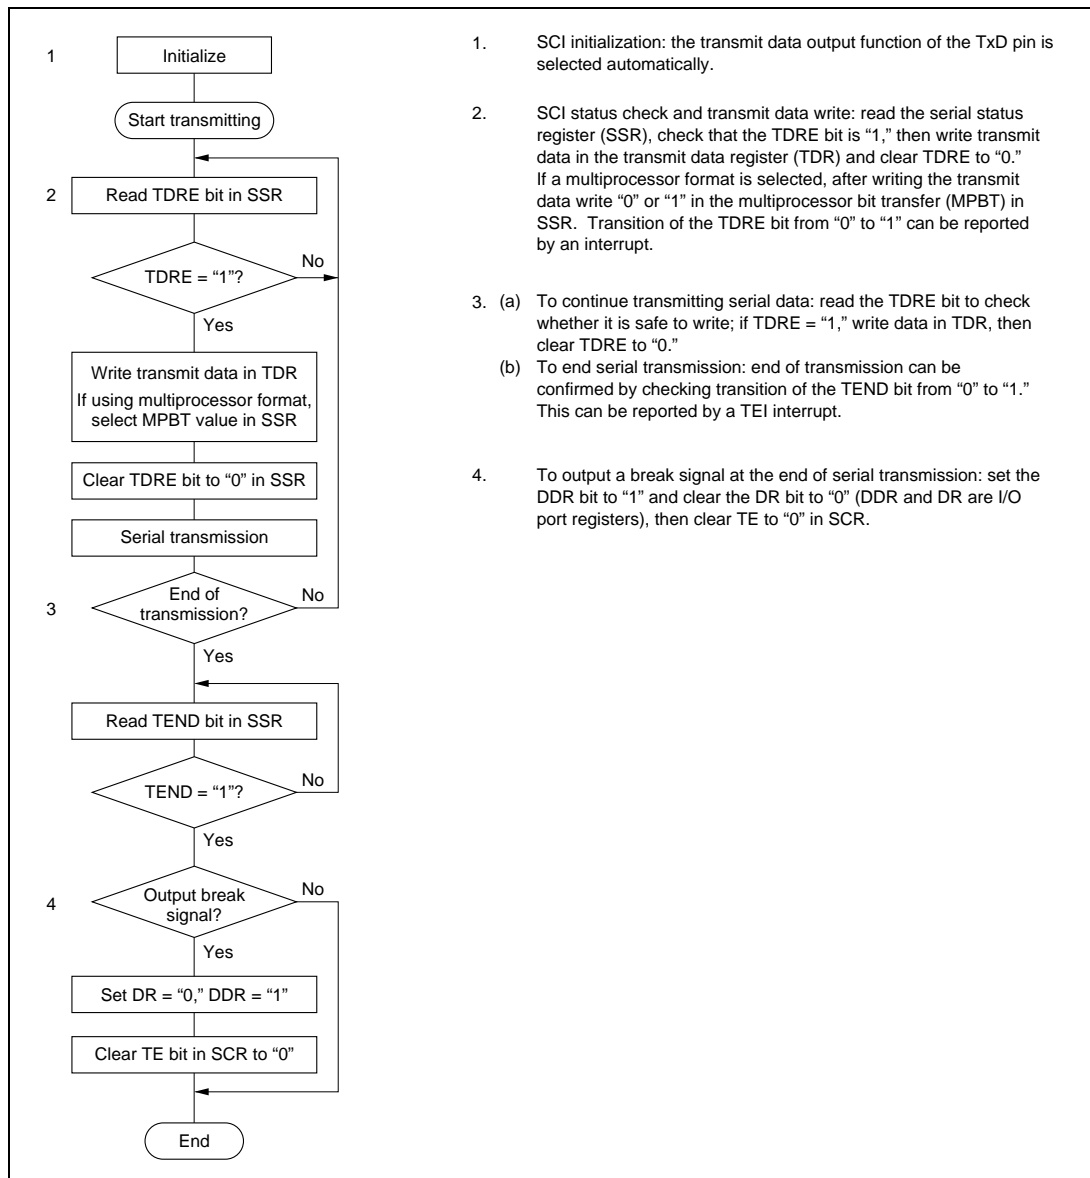

Figure 9-5. Sample Flowchart for Transmitting Serial Data
- **Transmitting Multiprocessor Serial Data:** See figures 9-5 and 9-6.